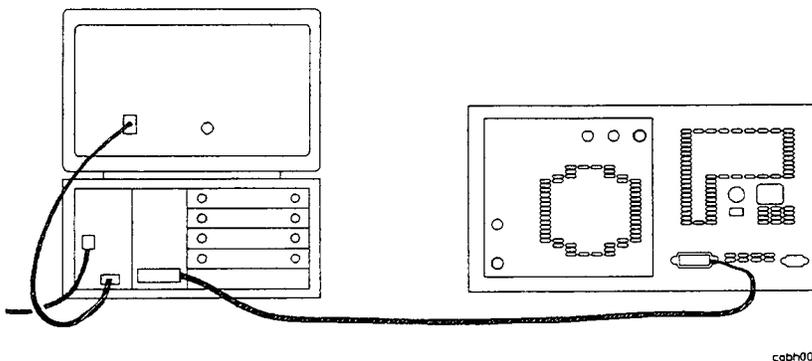

Figure 1-2. HP-IB Connections
1. Turn off the HP 3589A and the HP 9836, then connect them with the HP-IB cable as shown in figure 1-2.